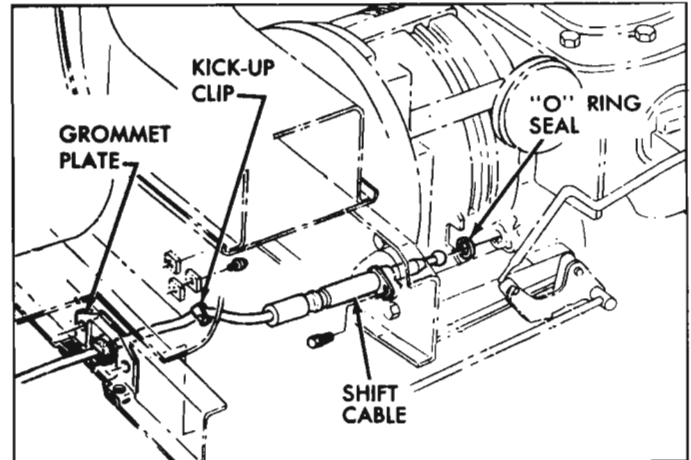

Fig. 6-6—Automatic Transmission Shift Cable Installation
- a. Disconnect the transmission shift cable by removing the screw securing cable to transmission case and removing grommet plate in rear of control tunnel (fig. 6-6). Remove cable from transmission by rotating throttle valve (TV) lever its full limit counterclockwise and then withdraw cable from case.